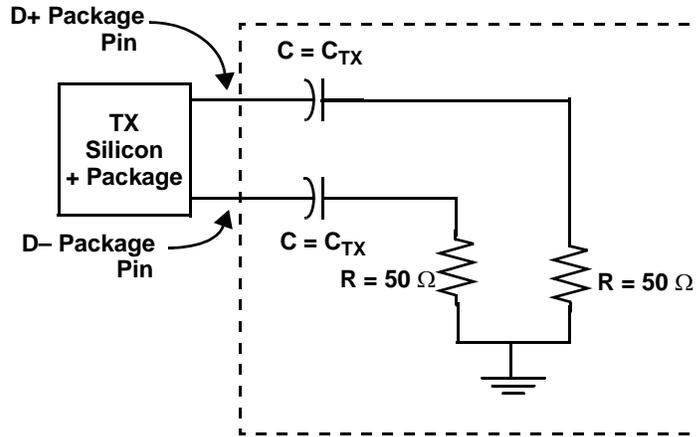

**Figure 18. Single Frequency Sinusoidal Jitter Limits**
2. Total jitter is composed of three components, deterministic jitter, random jitter, and single frequency sinusoidal jitter. The sinusoidal jitter may have any amplitude and frequency in the unshaded region of Figure 18. The sinusoidal jitter component is included to ensure margin for low frequency jitter, wander, noise, crosstalk, and other variable system effects.
- See Figure 18 for single frequency sinusoidal jitter limits
- Refer to RapidIO™ 1x/4x LP Serial Physical Layer Specification for interpretation of jitter specifications. Also see Figure 18.